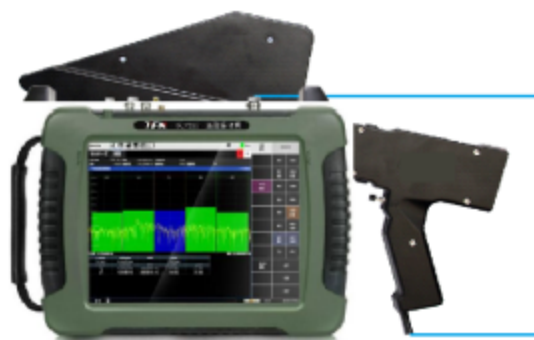

Figure 7.18 Connection diagram of handheld DF antenna and RMT series spectrometer
- Step 1. Connect the handheld direction finding antenna to the RF input port of RMT series spectrometer, connect the GPS antenna, and test after successful GPS synchronization, as shown in Figure 7.18: